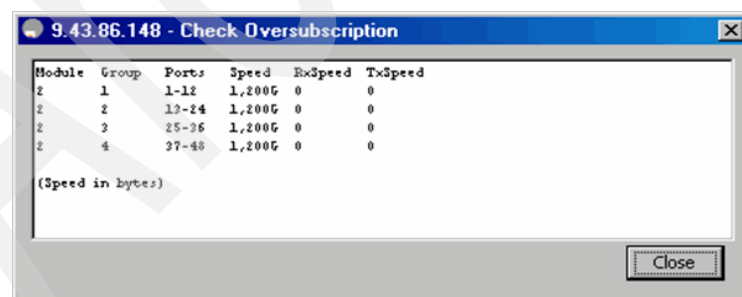

Figure 2-10 Checking the oversubscription status from the Device Manager
4. Check the oversubscription as shown in Figure 2-10.